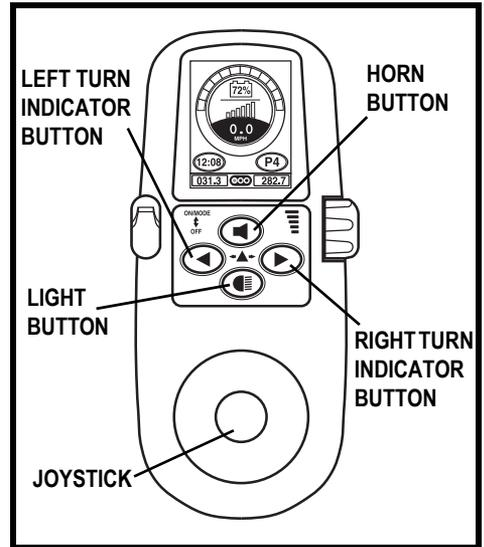

Figure 6. Q-Logic with Lights Keypad
NOTE: *If your Q-Logic Controller is equipped with a lighting system, the menu button and key 1/key 2 select buttons will be replaced with a light button and left/right turn indicator buttons. See figure 6.*